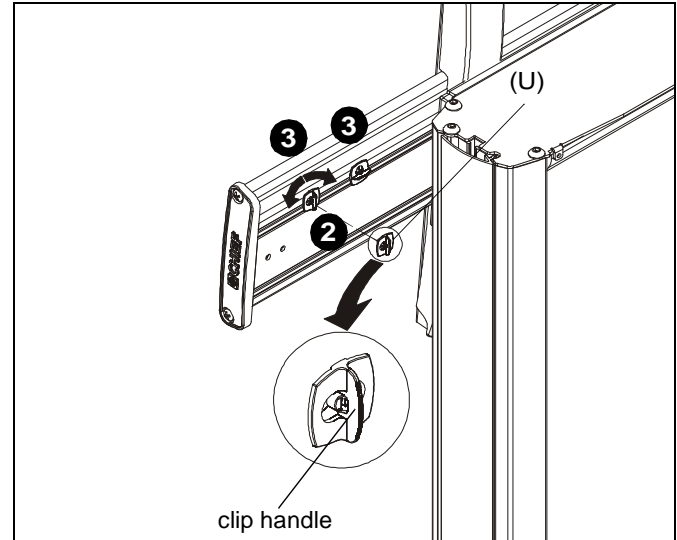

Figure 18
1. Place FCA clip (P) into groove on back of Fusion mount with clip handle in a vertical position. (See Figure 18)
2. Rotate FCA clip (P) 90° in either direction until clip handle is in a horizontal position. (See Figure 18)